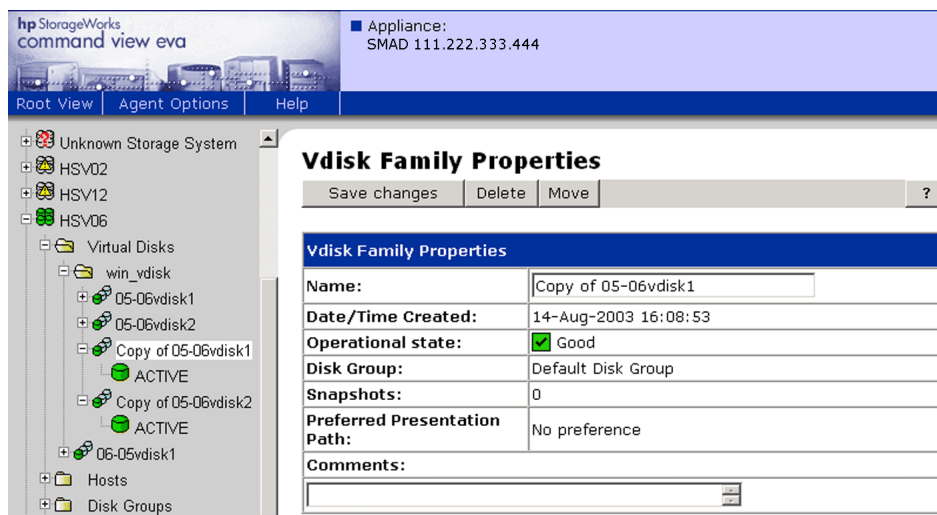

Figure 74: Vdisk Family Properties window
- f. Select a Snapcloned Vdisk name in the navigation pane. The Vdisk Family Properties window opens (Figure 74).